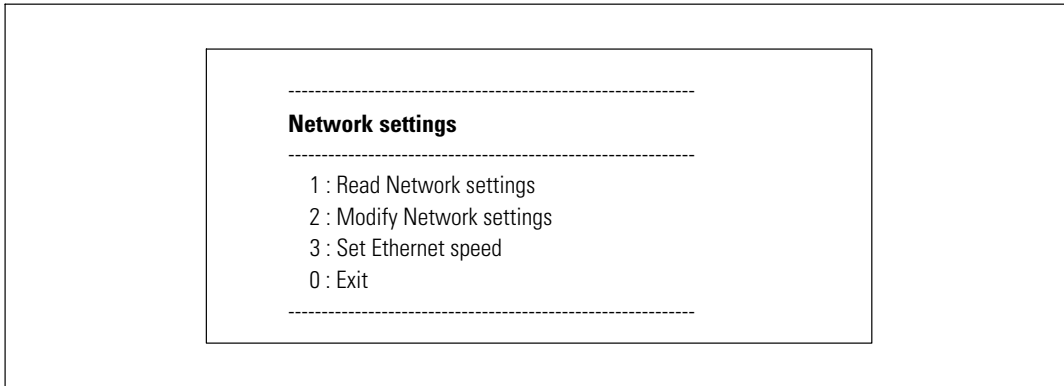

Figure 9. Network Settings Menu
- 1 From the main menu, type **2** and press **Enter**. The Network Settings menu displays (see Figure 9).